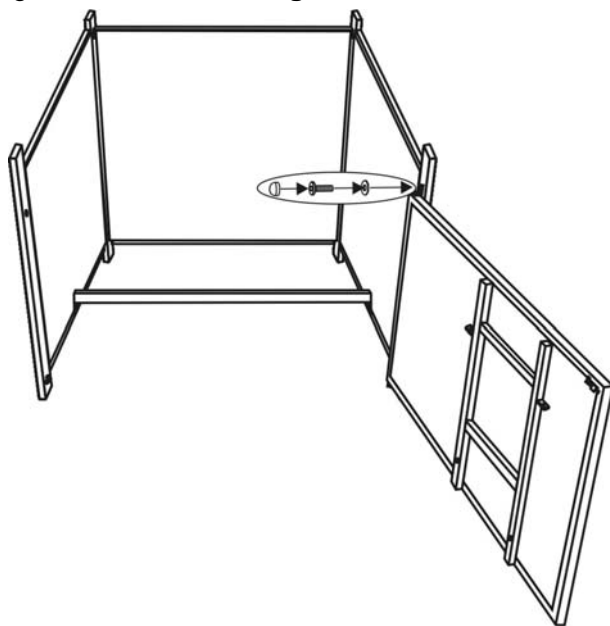

Figure 5
5. Put the door onto the bottom connector, guide the pin in the bottom connector into the hole under the door. Then guide the pin in the top connector into the hole on the top of the door. Use a 1/4"x15 mm bolt and washer to attach the top connector to the right side panel as shown in Figure 5. **Do not over tighten.**